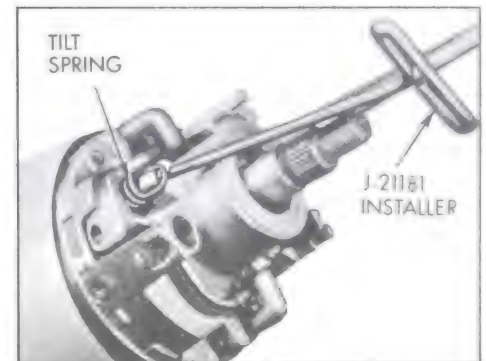

Figure 8-89—Installing Tilt Springs
10. Install the upper ends of the two tilt springs using Tool J-21181 spring installer. See Figure 8-89.